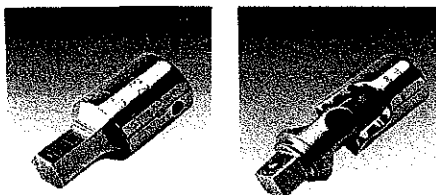

Fig.2: Torque wrench
- Dynamometric Spanner (torque wrench, Fig.2) required tightening the hub bolts in accordance with the tables in section 2.4.